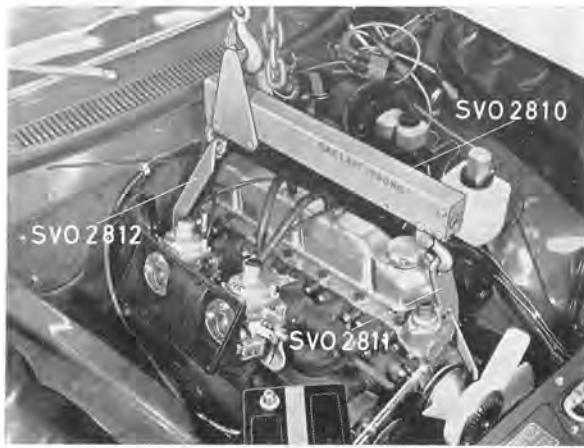

Fig. 2-12. Lifting out engine with lifting tool 2810
11. Remove the lower nuts from the engine front mountings. Fit the engine lifting unit with lifting beam 2810 and move the block runner to the rear end of the lifting beam, see Fig. 2-12. (Use a nut puller for this adjustment.)